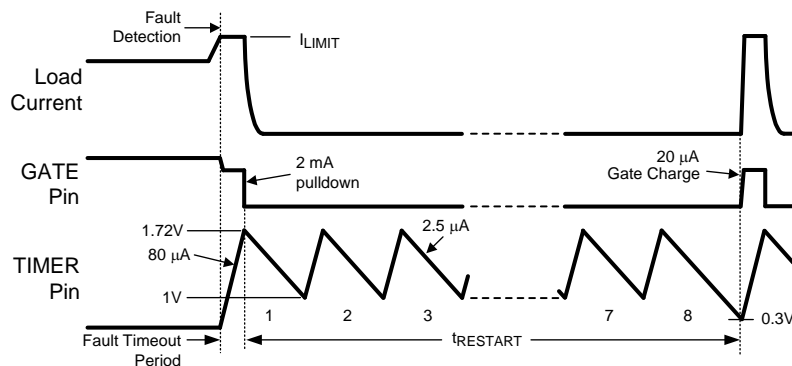

Figure 25. Restart Sequence (LM25069-2)
When the current limit or power limit threshold is reached during turn-on or as a result of a fault condition, the gate-to-source voltage of Q1 is modulated to regulate the load current and power dissipation in Q1. When either limiting function is activated, an 80 μA fault timer current source charges the external capacitor (C_T) at the TIMER pin as shown in Figure 25 (Fault Timeout Period). If the fault condition subsides during the Fault Timeout Period before the TIMER pin reaches 1.72V, the LM25069 returns to the normal operating mode and C_T is discharged by the 2.5 μA current sink. If the TIMER pin reaches 1.72V during the Fault Timeout Period, Q1 is switched off by a 2 mA pull-down current at the GATE pin. The subsequent restart procedure then depends on which version of the LM25069 is in use.
The LM25069-2 provides an automatic restart sequence which consists of the TIMER pin cycling between 1.72V and 1V seven times after the Fault Timeout Period, as shown in Figure 25. The period of each cycle is determined by the 80 μ A charging current, and the 2.5 μ A discharge current, and the value of the capacitor C_T . When the TIMER pin reaches 0.3V during the eighth high-to-low ramp, the 20 μ A current source at the GATE pin turns on Q1. If the fault condition is still present, the Fault Timeout Period and the restart cycle repeat.
C) Restart Timing For the LM25069-2, after the Fault Timeout Period described above, C_T is discharged by the 2.5 μA current sink to 1.0V. The TIMER pin then cycles through seven additional charge/discharge cycles between 1V and 1.72V as shown in Figure 25. The restart time ends when the TIMER pin voltage reaches 0.3V during the final high-to-low ramp. The restart time, after the Fault Timeout Period, is equal to: